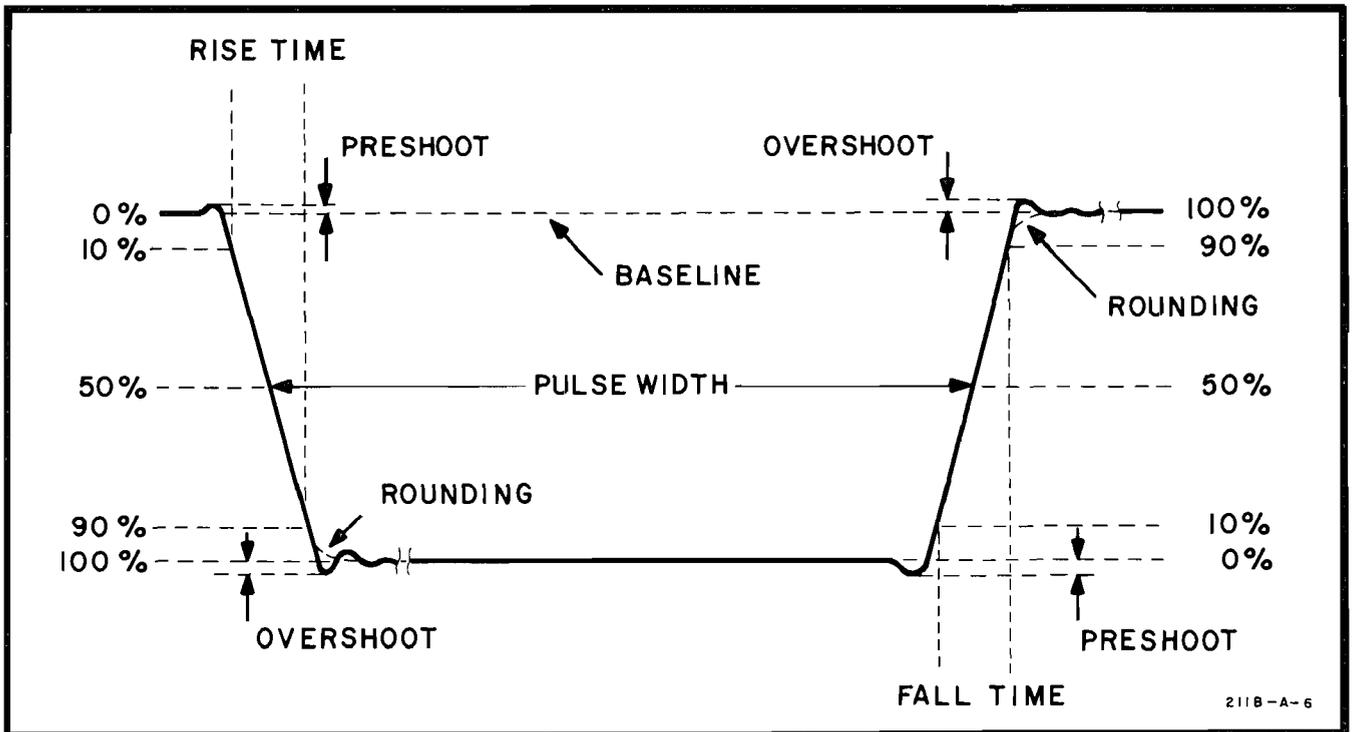

Figure 5-1. Typical Waveform Characteristics
warm-up. Perform the checks and adjustments in the same sequence as they are listed. Figure 5-1 is a typical waveform which illustrates points that are described in this section.
- a. See Figure 5-1 for definition of pulse characteristics.